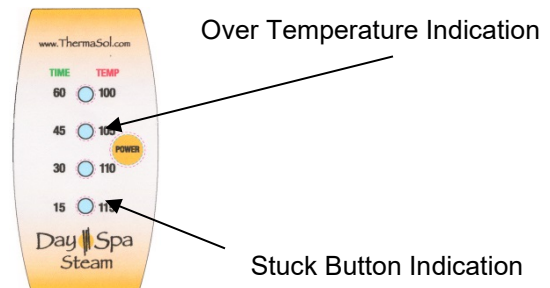

Figure 11
- 5. Diagnostic Feature.** The Day Spa TT control has a unique diagnostic feature. If there is a malfunction within the unit, it will alert you. The red 105° LED will flash if the shower area exceeds 135°F, and the red 115°F LED will flash if the control button becomes stuck. If any of these diagnostics happen the unit will shut down and lock out all user interfaces. To reset the unit, power will need to be reset at the breaker or at the steam distribution system switch. Contact a ThermaSol technician at **(800) 776-0711** for further trouble shooting steps. **(Figure 11)**